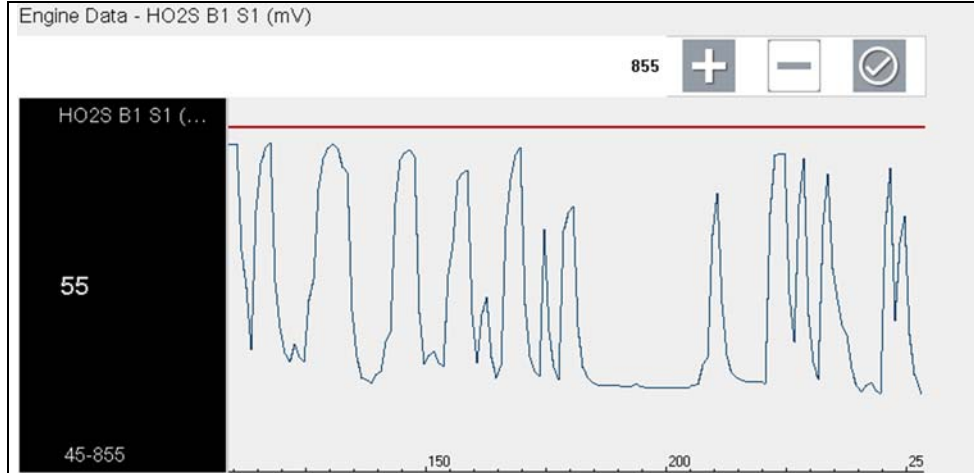

Figure 5-25 Trigger setup - upper limit
A graph of the highlighted PID and setup icons display (Figure 5-25).
The upper trigger point must be set first. A red horizontal line is displayed across the data graph (Figure 5-25) representing the upper trigger point.
- Use the plus (+) and minus (−) icons (Figure 5-25), or the up ▲ and down ▼ arrow buttons to change the position of the upper trigger point.